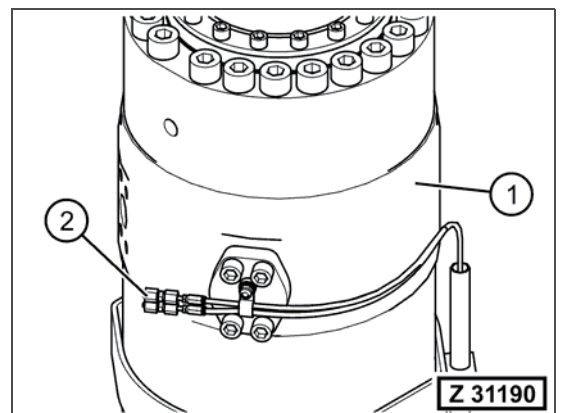

Fig. 5-295
7. Disconnect the grease lines (Fig. 5-295, Pos. 2) of the central lubrication system from the corresponding bucket cylinder (Fig. 5-295, Pos. 1).